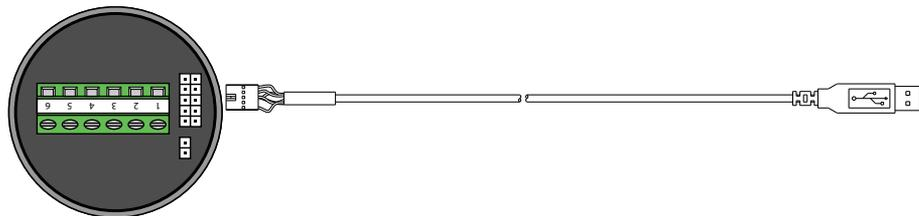

Figure 3: Interface connection
1. Make sure the power is off. Then connect the adapter cable to the K-factor scaler board using the programming port and connect the opposite end to the USB port of a PC. See Figure 3.
The programming interface uses two functional divisions as shown in Figure 3. The Program Values column contains the user-selected information for downloading into the K-factor scaler. The Board Values column shows the information that the K-factor scaler currently contains and is not alterable by the user. The Board Values column will only display the contents of the board after performing a Program, Read or Verify function.